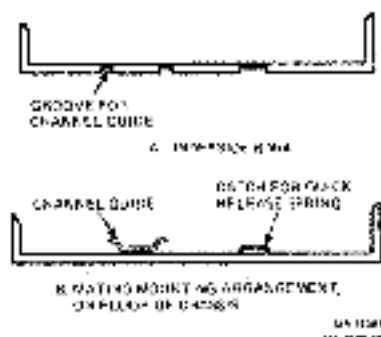

Figure 4-9 RD54-D, -R Subsystem Groove and Channel Guide
2. Align the groove on the bottom of the disk drive with the channel guide on the floor of the chassis (Figure 4-9).